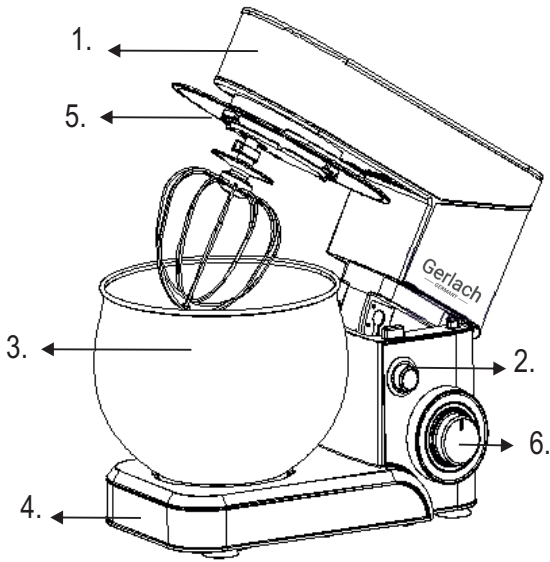

Fig. 1
#### DESCRIPTION OF THE DEVICE (figures 1 and 2 and 3)
4. Place the bowl (3) on the base (4), then turn the bowl (3) in clockwise until it locks.
5. To lower the top of food processor (1), press the tilt button (2) and push by one hand the top of food processor (1) down. A click sound will be heard when the head has reached the correct position. Make sure the bowl cover (5) is fixed in place (see figure 1).